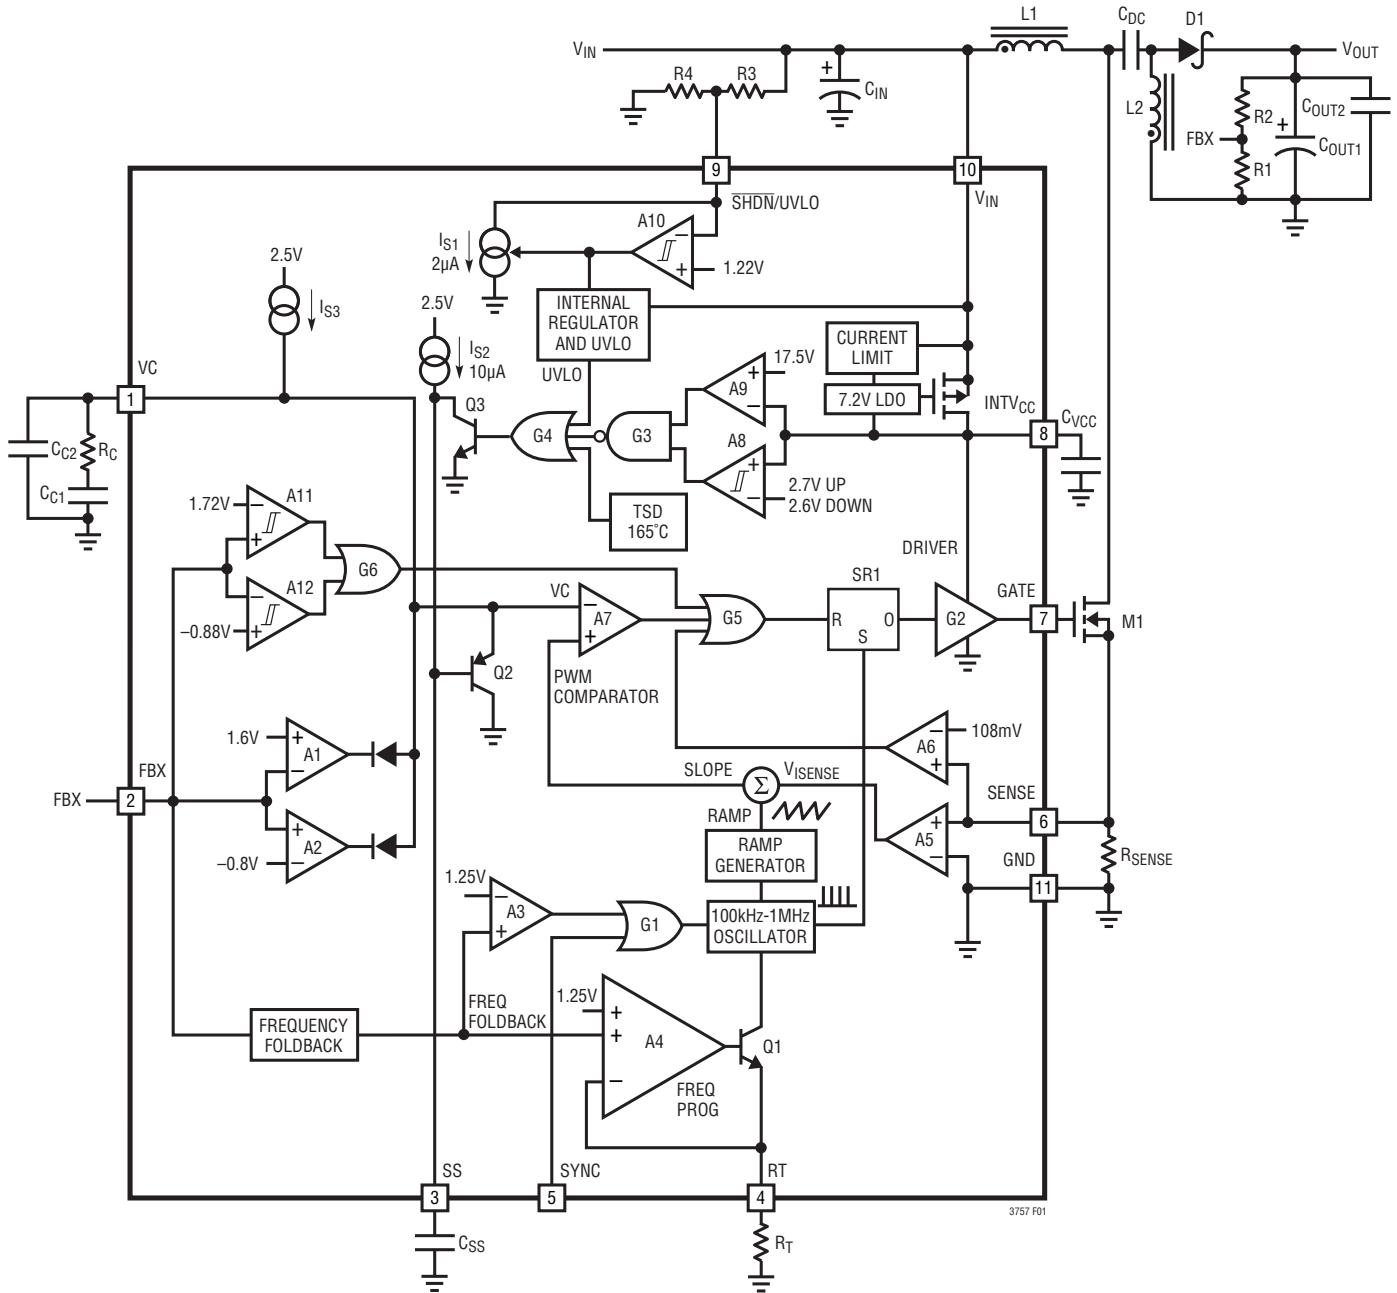

Figure 1. LT3757 Block Diagram Working as a SEPIC Converter
The LT3757 uses a fixed frequency, current mode control scheme to provide excellent line and load regulation. Operation can be best understood by referring to the Block Diagram in Figure 1.
The LT3757 is capable of generating either positive or negative output voltage with a single FBX pin. It can be configured as a boost, flyback or SEPIC converter to generate positive output voltage, or as an inverting converter to generate negative output voltage. When configured as a SEPIC converter, as shown in Figure 1, the FBX pin is pulled up to the internal bias voltage of 1.6V by a voltage divider (R1 and R2) connected from V_{OUT} to GND. Comparator A2 becomes inactive and comparator A1 performs the inverting amplification from FBX to VC. When the LT3757 is in an inverting configuration, the FBX pin is pulled down to
The purpose of this current is to allow the user to program the rising hysteresis. The Block Diagram of the comparator and the external resistors is shown in Figure 1. The typical falling threshold voltage and rising threshold voltage can be calculated by the following equations:
An internal, low dropout (LDO) voltage regulator produces the 7.2V INTV_{CC} supply which powers the gate driver, as shown in Figure 1. If a low input voltage operation is expected (e.g., supplying power from a lithium-ion battery or a 3.3V logic supply), low threshold MOSFETs should be used. The LT3757 contains an undervoltage lockout comparator A8 and an overvoltage lockout comparator A9 for the INTV_{CC} supply. The INTV_{CC} undervoltage (UV) threshold is 2.7V (typical), with 100mV hysteresis, to ensure that the MOSFETs have sufficient gate drive voltage before turning on. The logic circuitry within the LT3757 is also powered from the internal INTV_{CC} supply.
The choice of operating frequency may be determined by on-chip power dissipation, otherwise it is a trade-off between efficiency and component size. Low frequency operation improves efficiency by reducing gate drive current and MOSFET and diode switching losses. However, lower frequency operation requires a physically larger inductor. Switching frequency also has implications for loop compensation. The LT3757 uses a constant-frequency architecture that can be programmed over a 100kHz to 1000kHz range with a single external resistor from the RT pin to ground, as shown in Figure 1. The RT pin must have an external resistor to GND for proper operation of the LT3757. A table for selecting the value of R_T for a given operating frequency is shown in Table 1.
The output voltage (V_{OUT}) is set by a resistor divider, as shown in Figure 1. The positive and negative V_{OUT} are set by the following equations:
The LT3757 addresses this mechanism with the SS pin. As shown in Figure 1, the SS pin reduces the power MOSFET current by pulling down the VC pin through Q2. In this way the SS allows the output capacitor to charge gradually toward its final value while limiting the start-up peak currents. The typical start-up waveforms are shown in the Typical Performance Characteristics section. The inductor current I_L slewing rate is limited by the soft-start function.
component values and the operating conditions (including the input voltage, load current, etc.). To compensate the feedback loop of the LT3757, a series resistor-capacitor network is usually connected from the VC pin to GND. Figure 1 shows the typical VC compensation network. For most applications, the capacitor should be in the range of 470pF to 22nF, and the resistor should be in the range of 5k to 50k. A small capacitor is often connected in parallel with the RC compensation network to attenuate the V_C voltage ripple induced from the output voltage ripple through the internal error amplifier. The parallel capacitor usually ranges in value from 10pF to 100pF. A practical approach to design the compensation network is to start with one of the circuits in this data sheet that is similar to your application, and tune the compensation network to optimize the performance. Stability should then be checked across all operating conditions, including load current, input voltage and temperature.